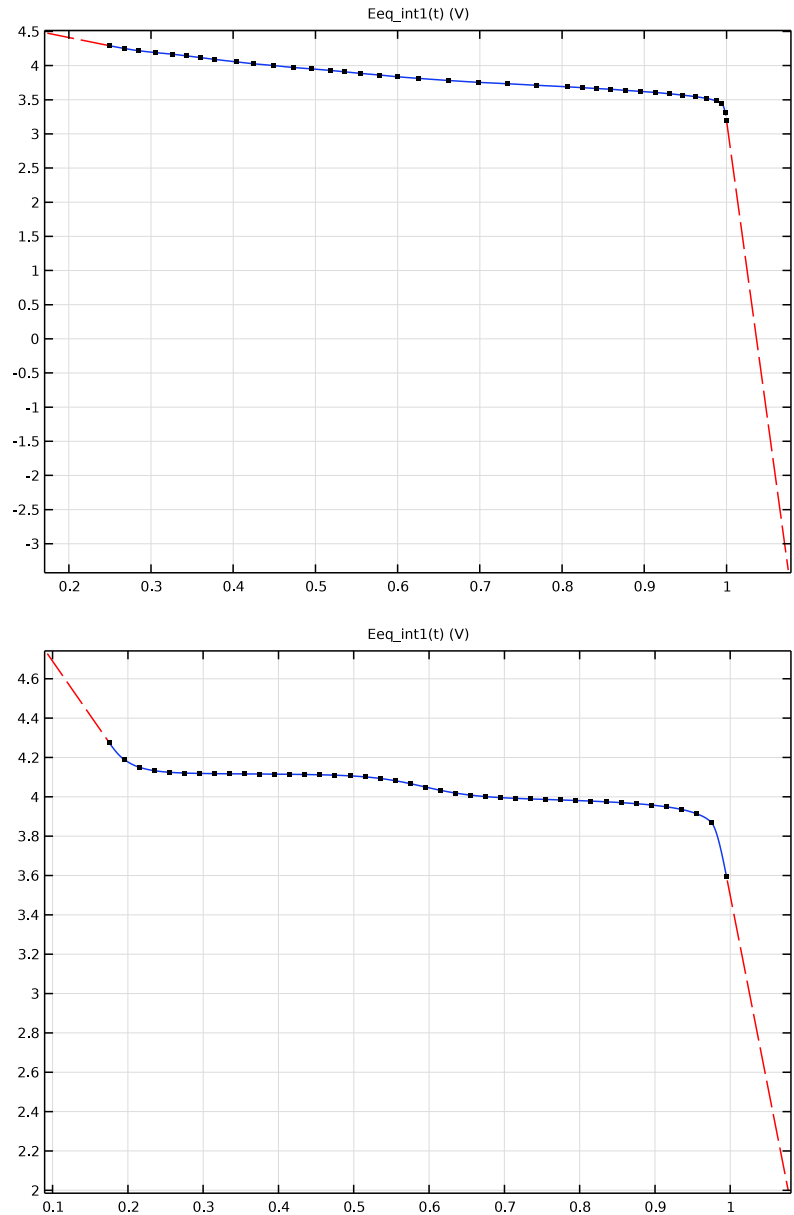

Figure 1: The equilibrium potentials of NCA (top) and LMO (bottom).
The equilibrium potentials of the positive electrode materials are shown in Figure 1
The x-axis data in Figure 1 depicts the lithiation level of the active material, which is calculated by dividing the concentration of lithium with the maximum concentration of lithium in the material (the host capacity).
- In order to avoid gassing and other harmful side reactions, the positive electrode potential is limited to about 4.1 V at 100% SOC, corresponding to lithiation levels of 30% and 19% for NCA and LMO, respectively (Figure 1).